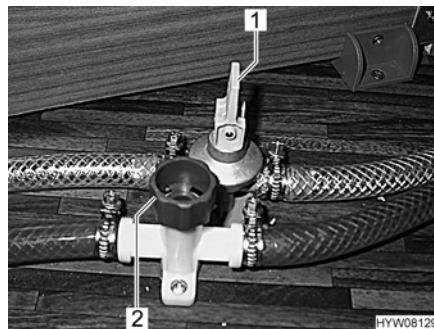

Fig. 80 Drain cocks
- Close all boiler drain cocks. To do this, position the rocking lever (Fig. 80,1) horizontally or turn the cap (Fig. 80,2) in a clockwise direction.
- Open all boiler drain cocks. To do this, position the rocking lever (Fig. 80,1) vertically or turn the cap (Fig. 80,2) in an anticlockwise direction.